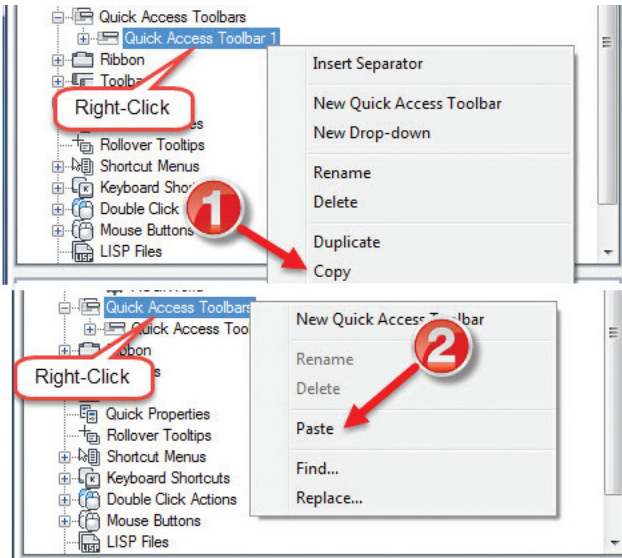

Figure 5: Copy and Rename your QAT
On the Manage Tab – Customization panel on the ribbon, choose user interface to display the Customize User Interface editor (see Figure 5). In the Customization pane we are going to pull out our Quick Access Toolbars section and right-click and select Copy (1). Then we will Select the Quick Access Toolbars heading and select Paste (2).